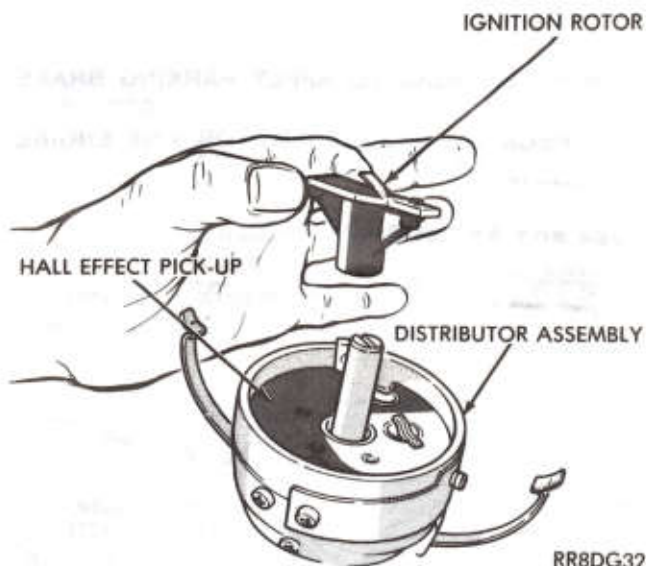

Fig. 11—Ignition Rotor Removal and Installation 3.9L and 5.2L Engines
- (1) Remove distributor cap (See "Distributor Removal and Installation 3.9L and 5.2L Engines).
- (2) Remove ignition rotor from distributor shaft (Fig. 11).
- (3) Remove two hall effect pick-up attaching screws